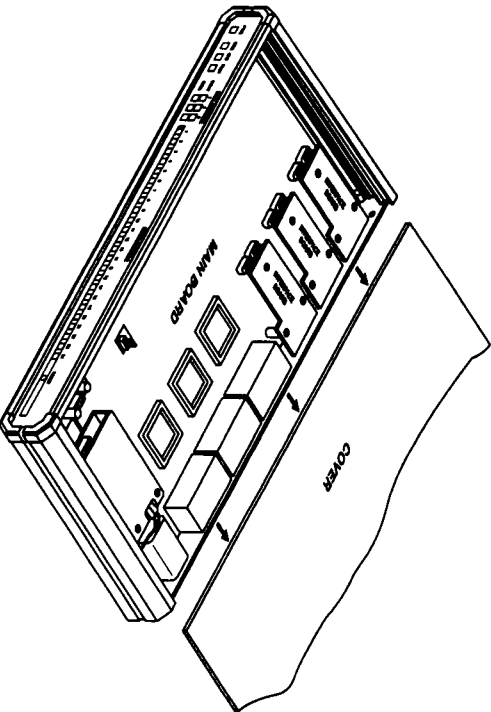

Figure 3-1. The internal layout of a Fradswitch A.
1. Make sure the Fradswitch A is unplugged from AC power. Taking all available precautions against static electricity—such as standing on an antistatic mat and/or wearing antistatic gloves or a grounding strap—unscrew the single rear-mounted screw securing the unit's cover to its case, then slide the top cover off as shown in Figure 3-1 on the next page.